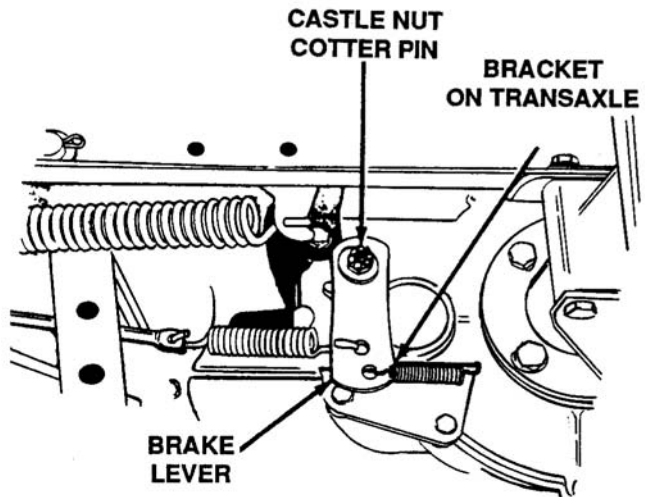

Figure 4-18. Brake Adjustment 600 and 700 Series, Four Wheel Steer
1. Remove the cotter pin. Tighten the castle nut by hand until the brake lever locks against the bracket on the transaxle. See Figure 4-18.